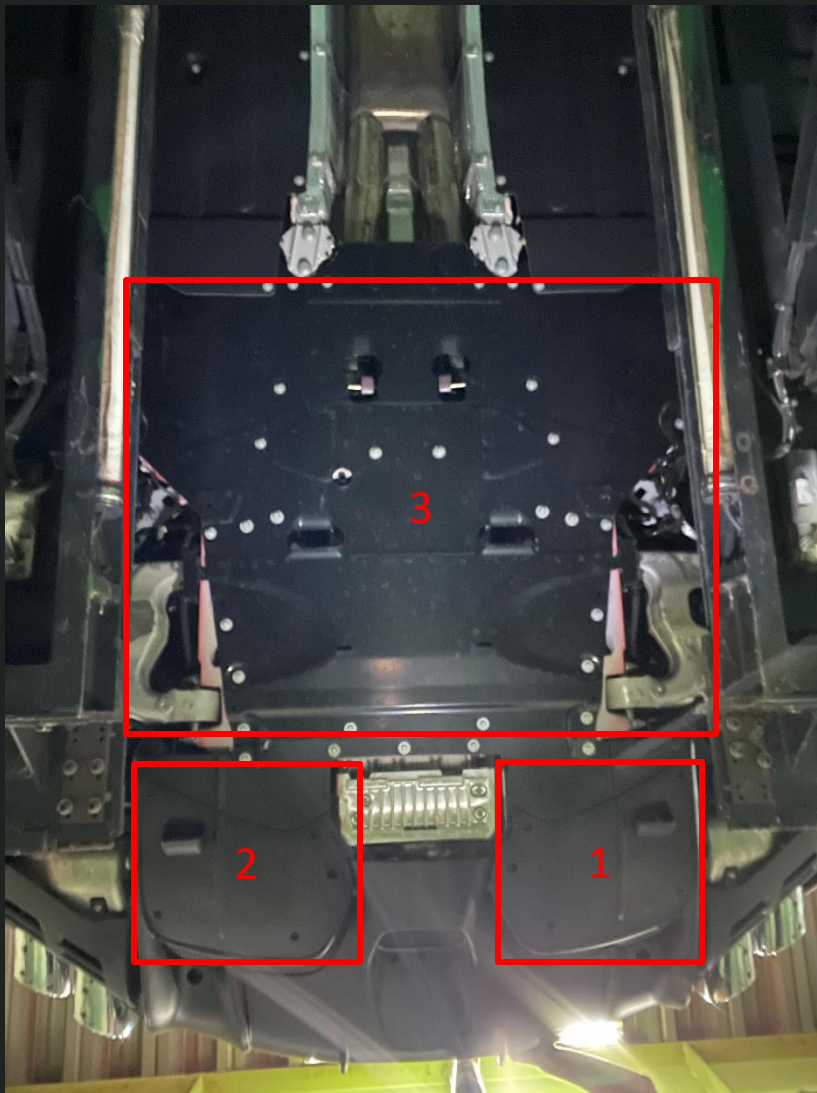

Figure 51
18. Reinstall the rear undertray (3) and the left (1) and right (2) lower plastic covers (Figure 51).